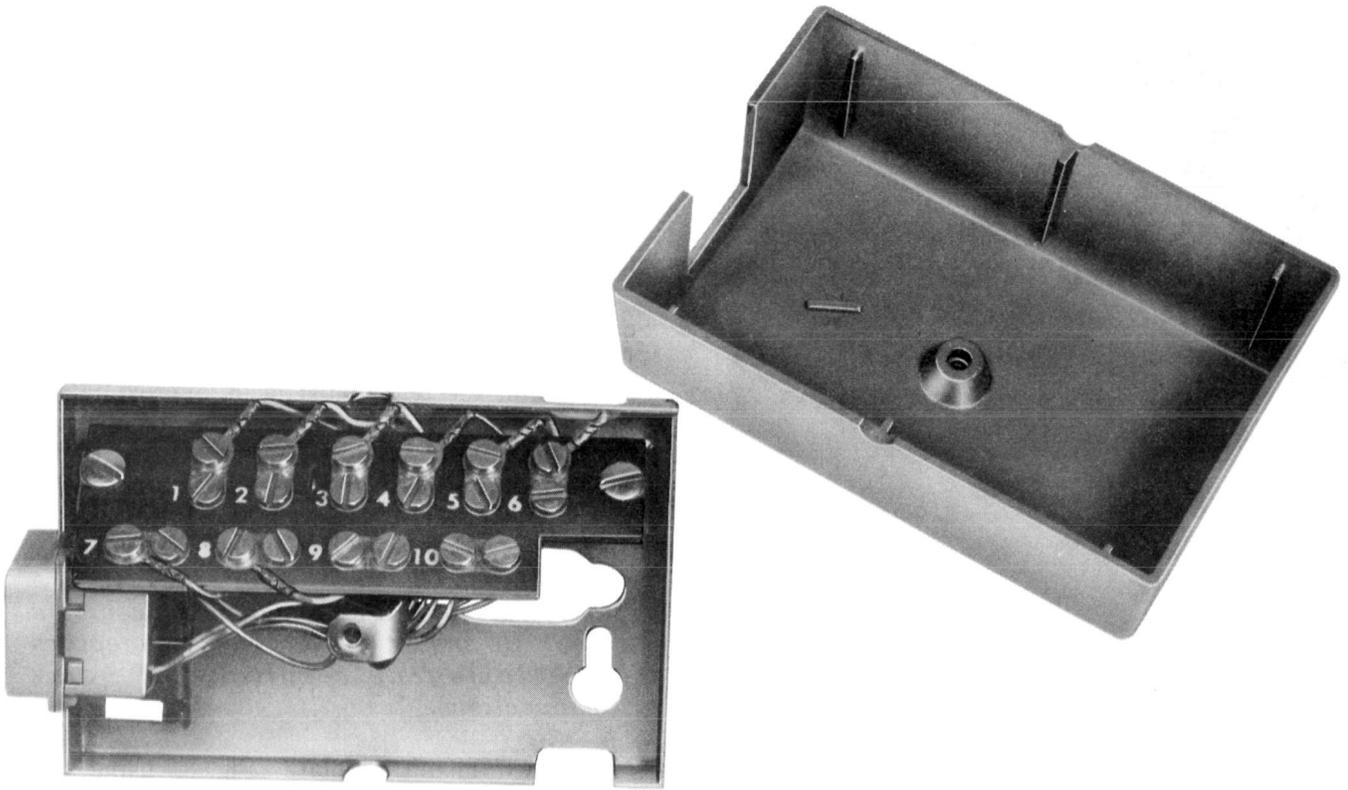

Fig. 11—635A (MD) Connecting Block
2.14 The **635A (MD)** connecting block contains a 650-type, 8-contact modular jack which is wired to eight screw terminals (Fig. 11). The 8-position plug on the series equipment is plugged into the modular jack, and the line and controlled station connections are made at the screw terminals. When a plug is not inserted, lead 1 is shorted to lead 4, and lead 5 to lead 8. Insertion of the 8-position plug removes the shorts and puts leads 1 and 4 and 5 and 8 in series with the series or exclusion equipment (Fig. 15). In this mode, continuity to the downstream equipment must be maintained through the series or exclusion equipment. ♦Do not use this connecting block with a 6-position plug—doing so will distort the jack contacts.♦